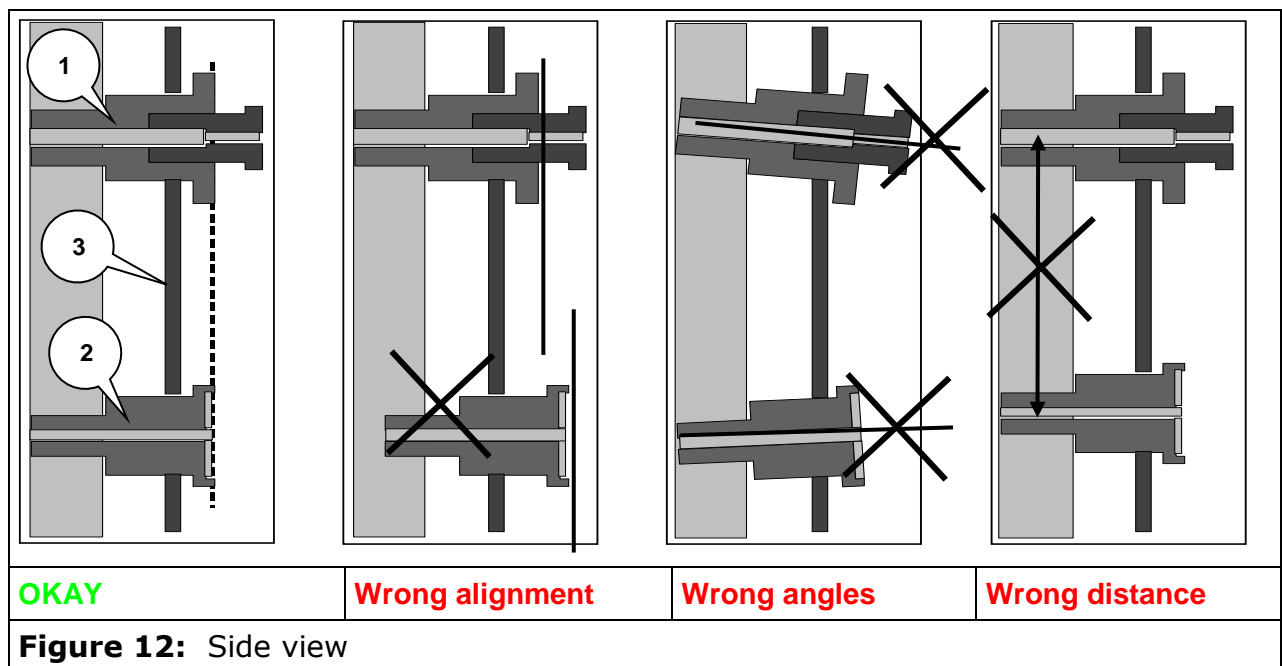

Figure 12: Side view
- Avoid wrong alignment, wrong angles and incorrect distances (see **Figure 12**)